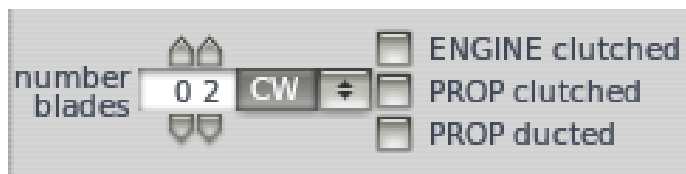

Figure 4.5: The reciprocating or turboprop specific fuel consumption
Beneath the propeller number and type settings is the “number of blades” control, as seen in Figure 4.5. This number can be set independently for each propeller. Immediately to the right of the number of blades is the direction of spin, also in Figure 4.5. This is set either to clockwise (CW) or counterclockwise (CCW), as seen when looking at the aircraft from behind.
To the right of the blade direction setting are three checkboxes, seen in Figure 4.5. The “engine clutched” and “prop clutched” boxes are used with helicopters and autogyros, respectively.
The final checkbox in Figure 4.5, labeled “prop ducted,” is used with ducted fans-propellers mounted inside a cylindrical shroud. Ducted fans are also found in Fenestron tail rotors and lift fans (as in the F-35B). A very straightforward ducted fan is found in the Martin Jetpack, as in Figure 4.6.